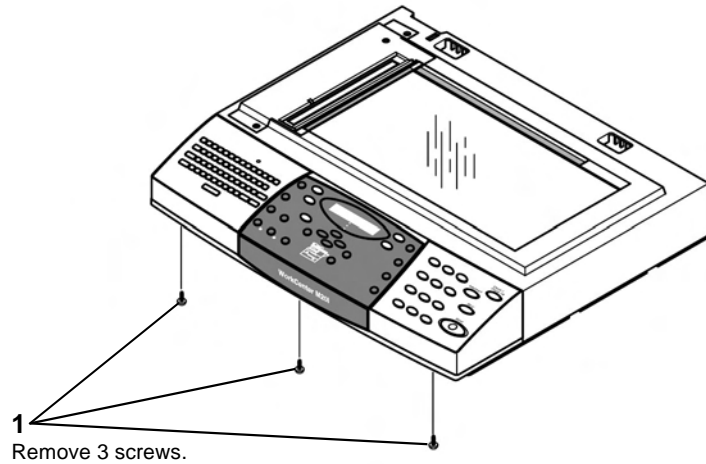
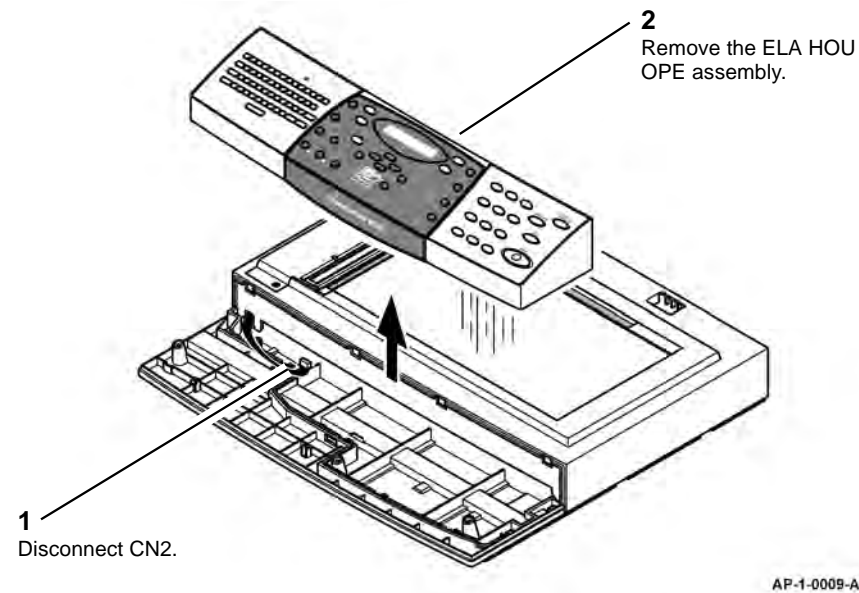

Figure 6 Screw removal
Figure 7 ELA HOU OPE assembly removal
NOTE: The M20F and 4118 procedures are similar. The M20F is shown in Figure 1, Figure 2, Figure 3, Figure 4, Figure 5, Figure 6 and Figure 7.
8. Remove the 3 screws securing the ELA HOU OPE assembly, Figure 6.
9. Remove the ELA HOU OPE assembly, Figure 7.